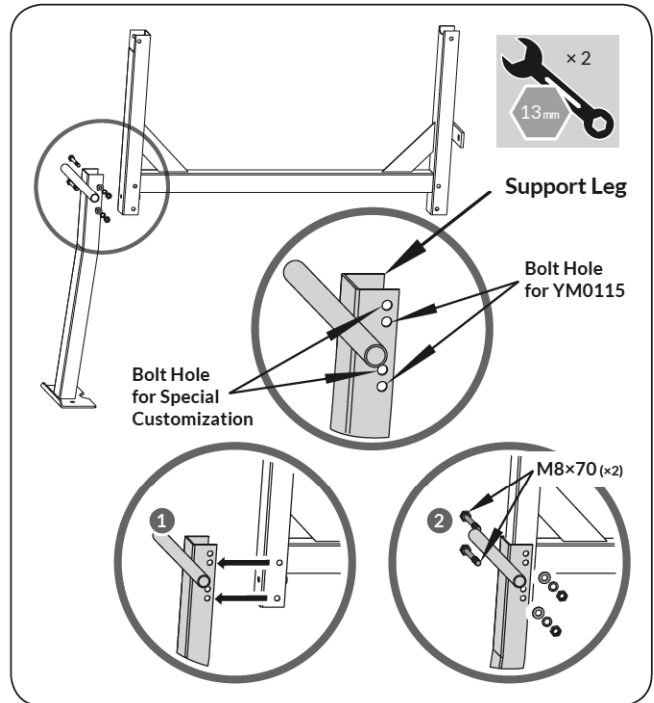

Figure 1b
2. With the frame lying on its side, attach the support legs. Align the 2 holes on the support leg with the frame holes as shown. (See **Figure 1b, Illustration 1**) Insert two M8×70 hex bolts through the holes, and secure with flat washers, lock washers, and nuts (See **Figure 1b, Illustration 2**).